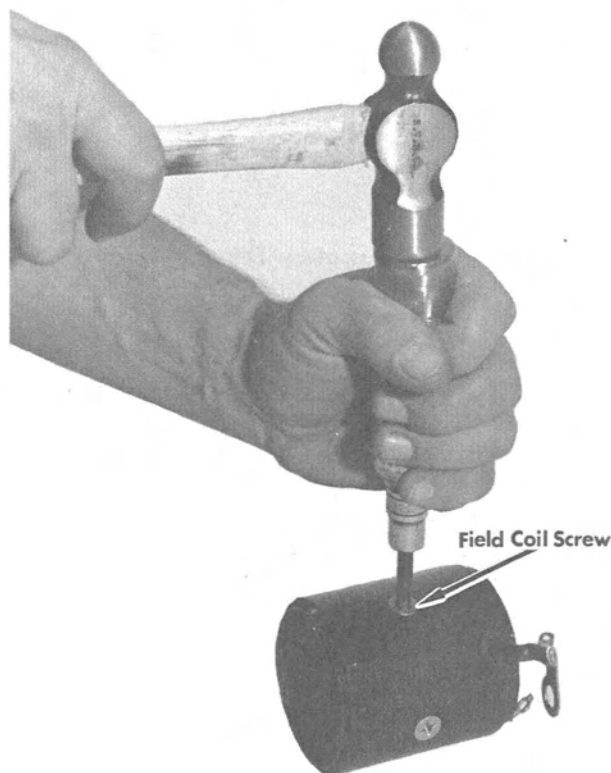

Figure 7. Removing Field Coil Screws
13. Remove field coil attaching screws. (Figure 7)